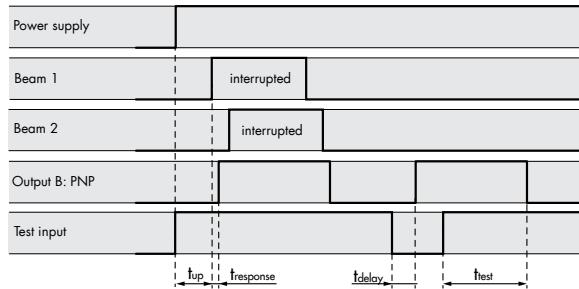

Figure 10: Connecting of the connector
- ▶ Every device needs to be separately connected to the corresponding control device. For electrical connection, see Figure 10.
4. Connect wires (see Figure 10)
5. Connect wires (see Figure 10)